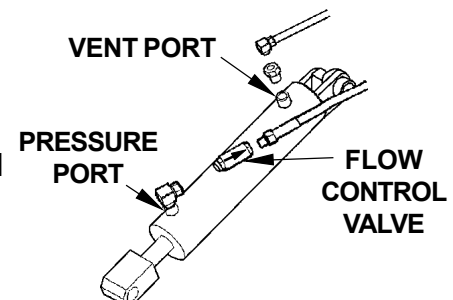

FIG. 41-3
2. Check the Hydraulic Cylinder. With the Platform on the ground, remove the Breather Plug or Vent Line from the Vent Port of the Cylinder (**FIG. 41-3**). Raise the Platform even with the bed. Allow pump motor to run two seconds more while you watch for hydraulic fluid at the Vent Port. A few drops of hydraulic fluid escaping the Vent Port is normal; however, if it streams from the Vent Port, Piston Seals are worn. Replace Seals.
3. Check and clean Flow Control Valve in high pressure hydraulic line attached to Cylinder. When installing Flow Control Valve make sure arrow on valve is oriented as shown in (**FIG. 41-3**).